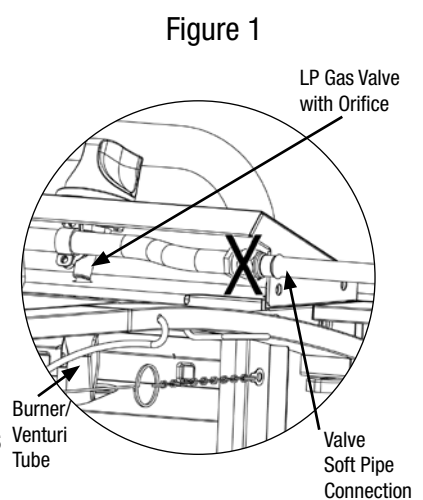

Figure 1
- Please refer to diagram for proper installation (Figures 1).
- Spoon several drops of solution, or use a squirt bottle, at all "X" locations (Figures 1 and 3).